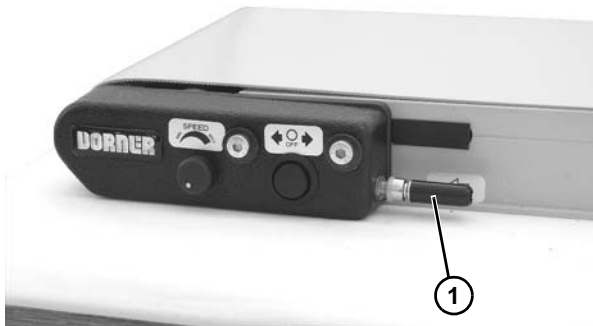

Figure 24
1. Locate the male disconnect plug (**Figure 24, item 1**) provided.